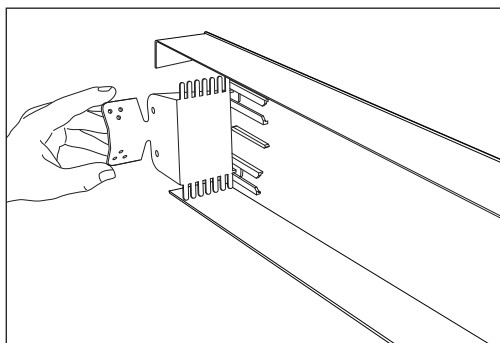

Fig 2 Locate starter insert in dry verge unit
- 5 Slide starter insert into internal fixing channels of dry verge unit, and position assembly for fixing over the eaves verge tile. The verge unit should be sitting tightly against the top of the verge tile while the starter insert rests against the end and face of the fascia board (Fig 2).